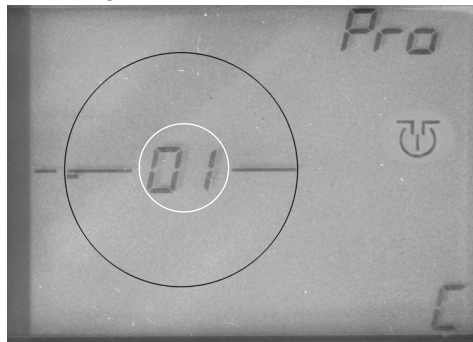

Fig. 10 Give the first exit a number
- Turn the **red knob** until the number "01" blinks in the display in place of the indication "00" (Fig. 10).